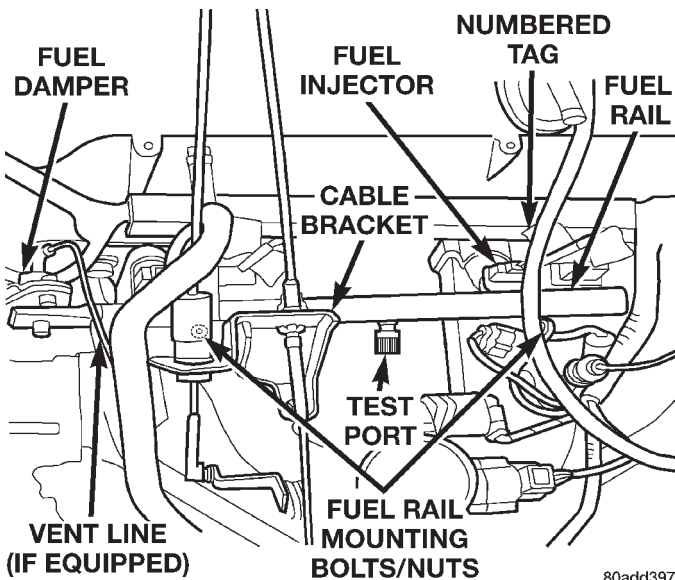

Fig. 30 Fuel Rail Mounting—2.5L Engine
- (1) Remove fuel tank filler tube cap.
- (2) Perform Fuel System Pressure Release Procedure as described in this Group.
- (3) Disconnect negative battery cable from battery.
- (4) Remove air tube at top of throttle body. Note: Some engine/vehicles may require removal of air cleaner ducts at throttle body.
- (5) Remove injector harness electrical connectors at each injector. Each injector connector should have a numerical tag attached identifying its corresponding cylinder (Fig. 30). If not, identify each connector before removal.
- (6) Disconnect vent line at fuel damper (if equipped).
- (7) Disconnect fuel supply line latch clip and fuel line at fuel rail. Refer to Quick-Connect Fittings in this group for procedures.
- (8) Disconnect throttle cable at throttle body. Refer to Throttle Cable Removal/Installation in this group for procedures.
- (9) Disconnect speed control cable at throttle body (if equipped). Refer to Speed Control Cable in Group 8H, Speed Control System for procedures.
- (10) Disconnect automatic transmission cable at throttle body (if equipped).
- (11) Remove cable routing bracket (Fig. 30) at intake manifold.
- (12) Remove nut securing crankshaft position sensor pigtail harness to fuel rail mounting stud. Remove clamp and harness from fuel rail mounting stud.
- (13) Clean dirt/debris from each fuel injector at intake manifold.
- (14) Remove fuel rail mounting nuts/bolts (Fig. 30).
- (15) Remove fuel rail by gently rocking until all the fuel injectors are out of intake manifold.